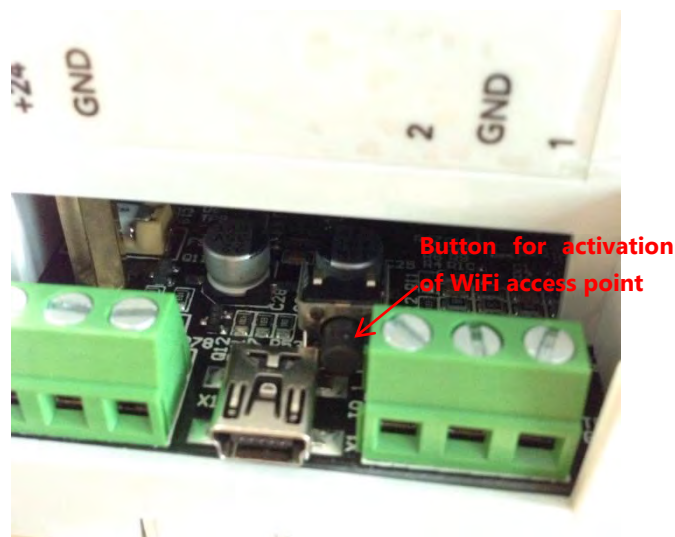

Figure 13: WiFi activation button on Gateway.
2. There is a small button in the space between the two connector pins as shown in Figure 13 below. Press and hold this button for a few seconds. Now the WiFi access point is activated.